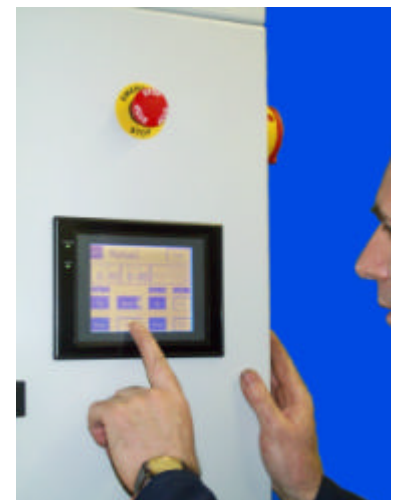

Fig. 4a Operating panel
2. Ensure that the main isolator is set to 'OFF' and that the Emergency Stop, shown, (fig. 4a) is pushed into the 'OFF' position.